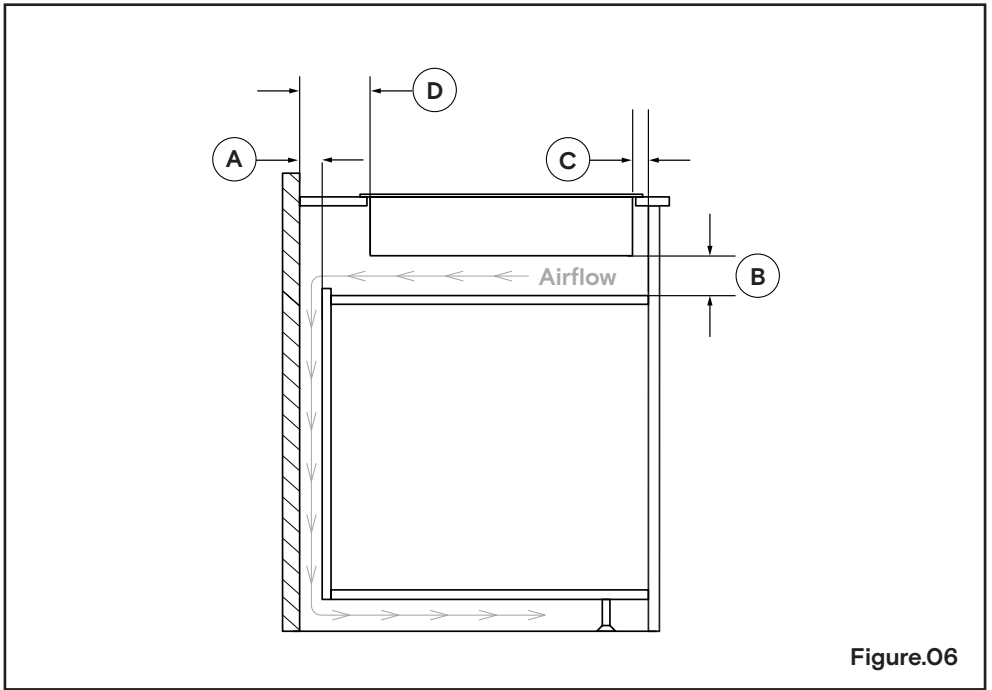

Figure.06
- › A minimum 13/16" (20 mm) clearance between the rear of the cabinet and the kitchen wall. **[Figure.06] [A]**
- › A minimum of 2" (50 mm) for 120 V and 2 3/4" (70 mm) for 240 V installation between the underside of the battery-integrated cooktop and the closest horizontal cabinet surface, such as a cabinet drawer. **[Figure.06] [B]**
- › A minimum 1/2" (13 mm) between the front of the integrated battery and the inside surface of the front cabinet. **[Figure.06] [C]**
- › A minimum 2 1/2" (64 mm) clearance between the back of the integrated battery and the kitchen wall. **[Figure.06] [D]**